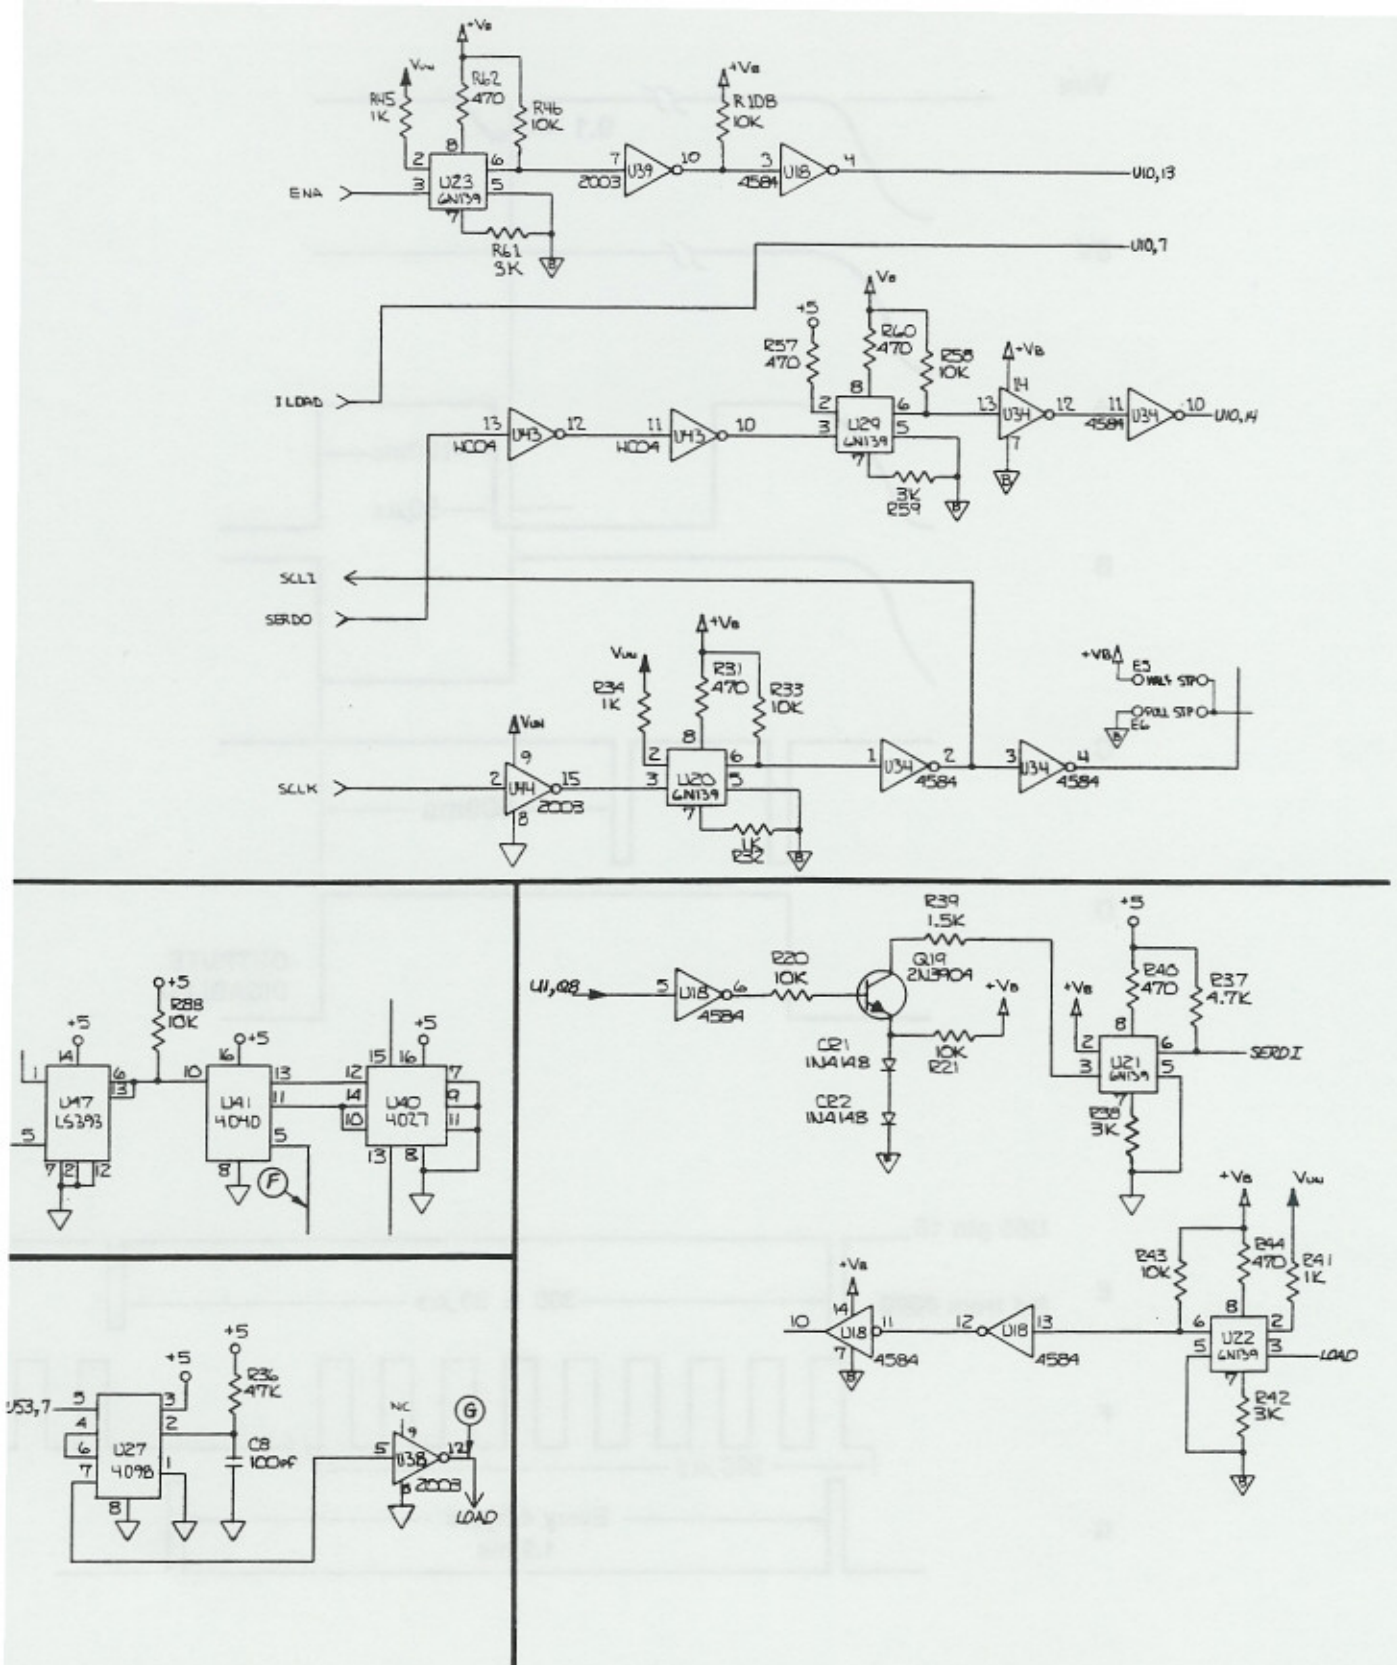

Figure 6-3
The three signals, LOAD, ENA, and SCLK are optically isolated and fed to the shift registers as shown in Figure 6-3. Wave forms for SCLK (F) and LOAD (G) are shown in Figure 6-4.